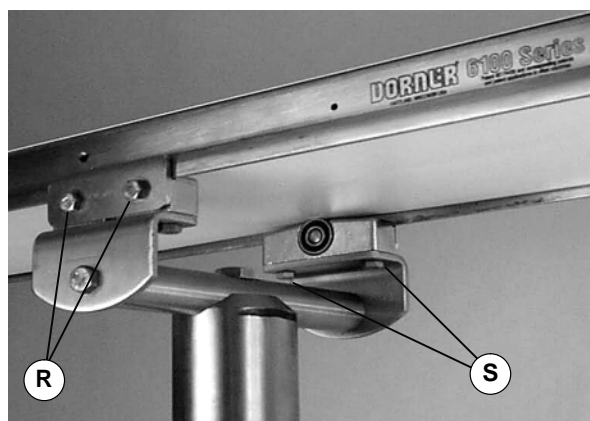

Figure 13
3. Attach clamp plates on each side of conveyor (Figure 13). Tighten the screws (R) to 10.4 Nm.